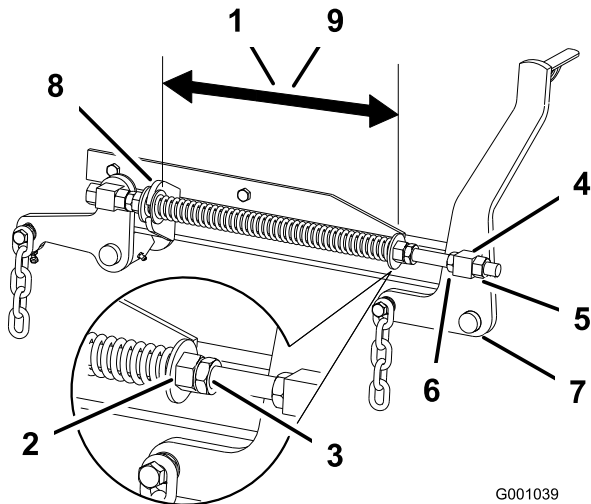

Figure 74
2. Check the distance between the two large washers, it needs to be 10-1/2 inches (26.7 cm) for 60 inch mower decks or 11-1/2 inches (29.2 cm) for 72 inch mower decks (Figure 74).
3. Adjust this distance, by loosening the spring jam nut and turning the nut in front of each spring (Figure 74). Turning the nut clockwise will shorten the spring; counter-clockwise will lengthen the spring.
4. Lock the nut into position by tightening the spring jam nut (Figure 74).